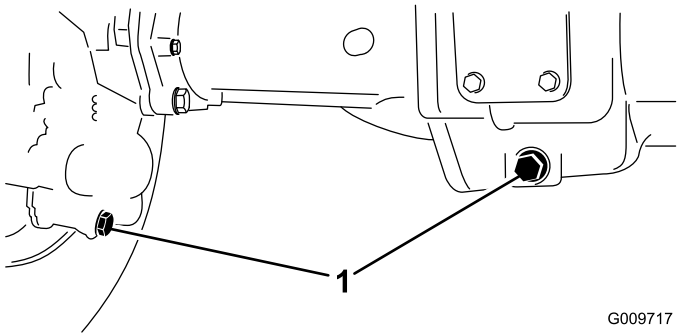

Figure 68
2. Clean the area around the 3 drain plugs—1 on each end and 1 in the center (Figure 68).